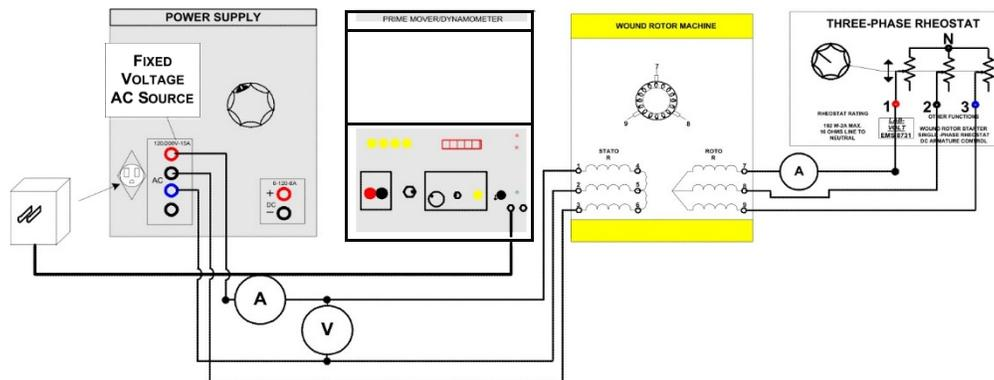

FIGURE 6.5
Step 28: Connect the circuit shown in Figure 6.5. Set the dynamometer control knob at its full cw position (to provide a maximum starting load for the motor).